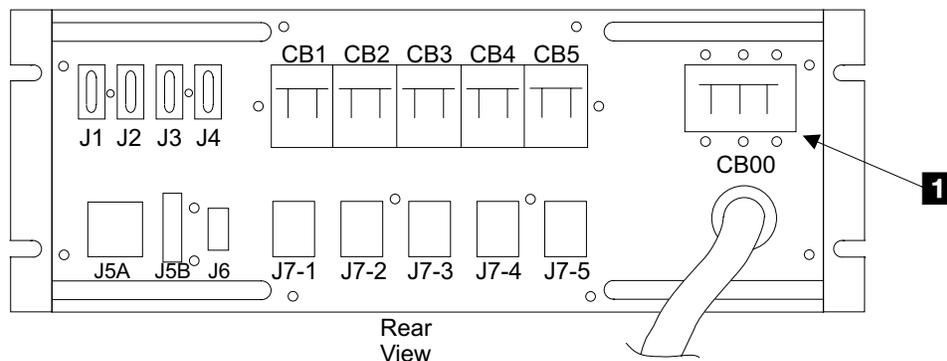

Figure 216. Primary Power Supply Mainline Circuit Breaker (S008099I)
3. Ensure the system power MAIN LINE circuit breaker (CB00) **1** [Figure 216] on the rear of both primary power supplies is set to Off (down).